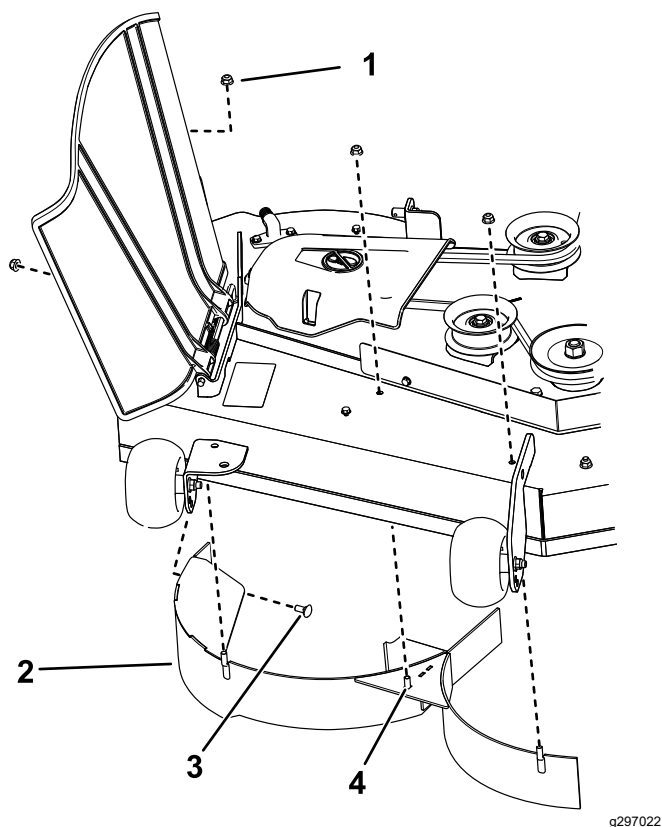

Figure 13
4. Remove the 3 locknuts (5/16 inch) from the welded posts of the right baffle (Figure 13).
5. Remove the 2 carriage bolts and 2 locknuts securing the right baffle to the deck and remove the baffle (Figure 13).
6. Locate the 3 bolts in loose parts and use the existing locknuts and install these fasteners into the holes used for the welded posts (Figure 13) to prevent flying debris.